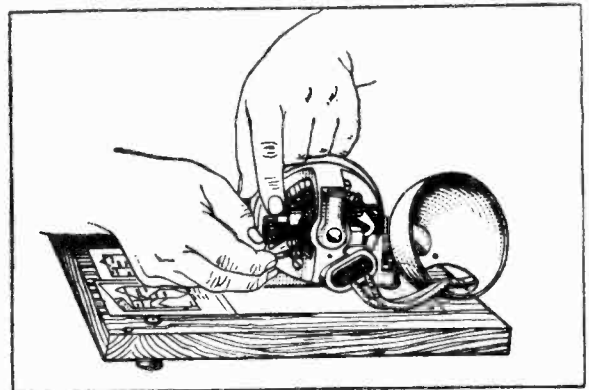

Fig. 6—Changing Brushes
2. Renewing Brushes—The brushes should be replaced when they become badly worn. This condition will be noticed by excessive sparking and a noisy motor. Fig. 6 shows the method of changing brushes.